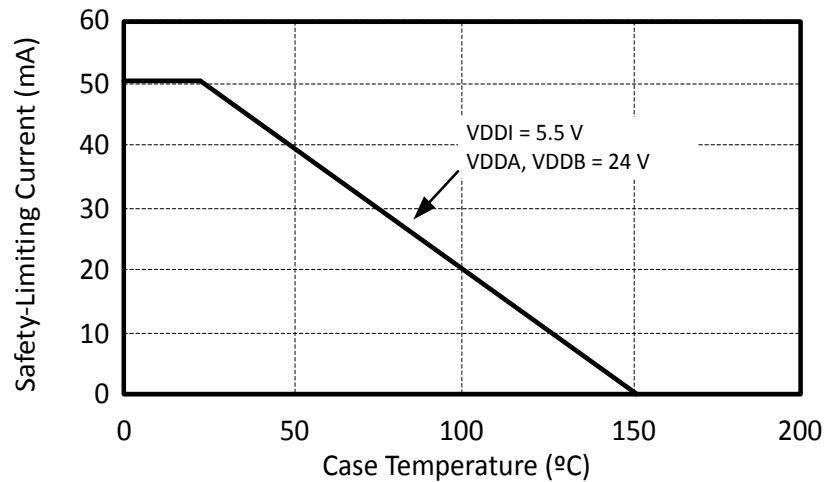

Figure 3.4. WB SOIC, NB SOIC, 14 LD LGA/QFN Thermal Derating Curve, Dependence of Safety Limiting Values with Case Temperature per VDE 0884-10
1. Maximum value allowed in the event of a failure. Refer to the thermal derating curve in Figures [Figure 3.4 WB SOIC, NB SOIC, 14 LD LGA/QFN Thermal Derating Curve, Dependence of Safety Limiting Values with Case Temperature per VDE 0884-10 on page 33](#).